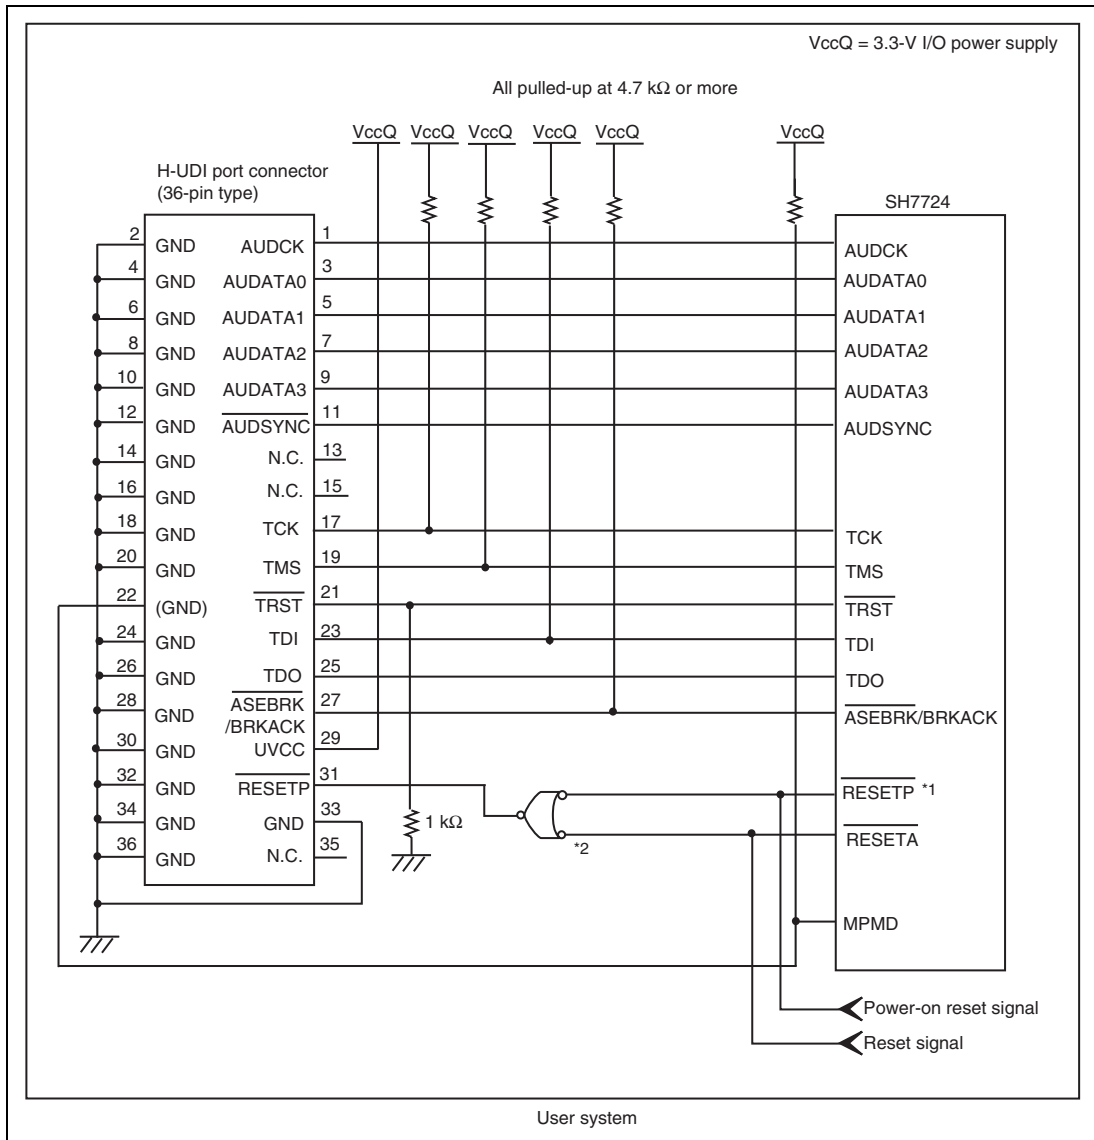

Figure 1.5 Recommended Circuit for Connection between the H-UDI Port Connector and MPU when the Emulator is in Use (36-Pin Type)
5. Connect RESETP# and RESETA# to the user system if required, as shown in figure 1.5.
Figure 1.5 shows a recommended circuit for connection between the H-UDI and AUD port connectors (36 pins) and the MPU when the emulator is in use.
- (1) When the emulator is used: $MPMD = 0$
- (2) When the emulator is not used: $MPMD = 1$Figure 1.5 shows an example of circuits that allow the MPMD pin to be GND (0) whenever the emulator is connected by using the user system interface cable. When the MPMD pin is changed by switches, etc., ground pin 22. Do not connect this pin to the MPMD pin.
8. The resistance values shown in figure 1.5 are for reference.
When the circuit is connected as shown in figure 1.5, the switches of the emulator are set as SW2 = 1 and SW3 = 1. For details, refer to section 3.8, Setting the DIP Switches, in the SuperH™ Family E10A-USB Emulator User's Manual.